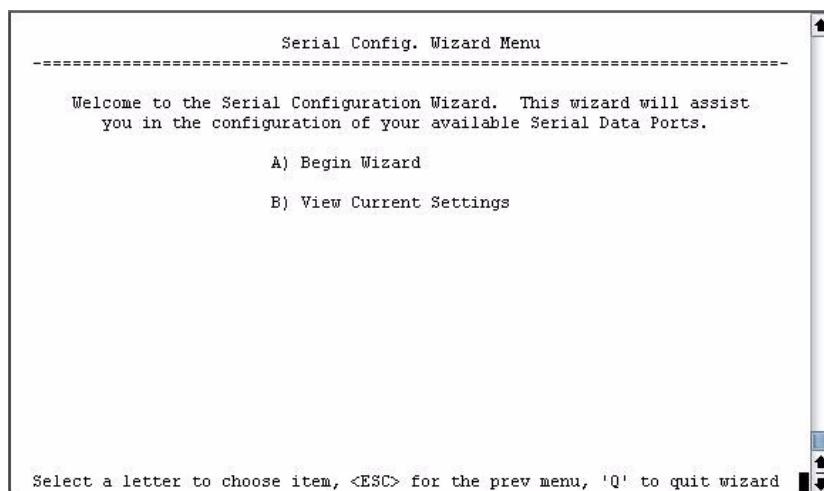

Figure 3-54. Configuration Wizard Opening Screen
1. From the Serial Configuration Wizard opening screen (Figure 3-54 on Page 91), select **A** to begin the wizard.